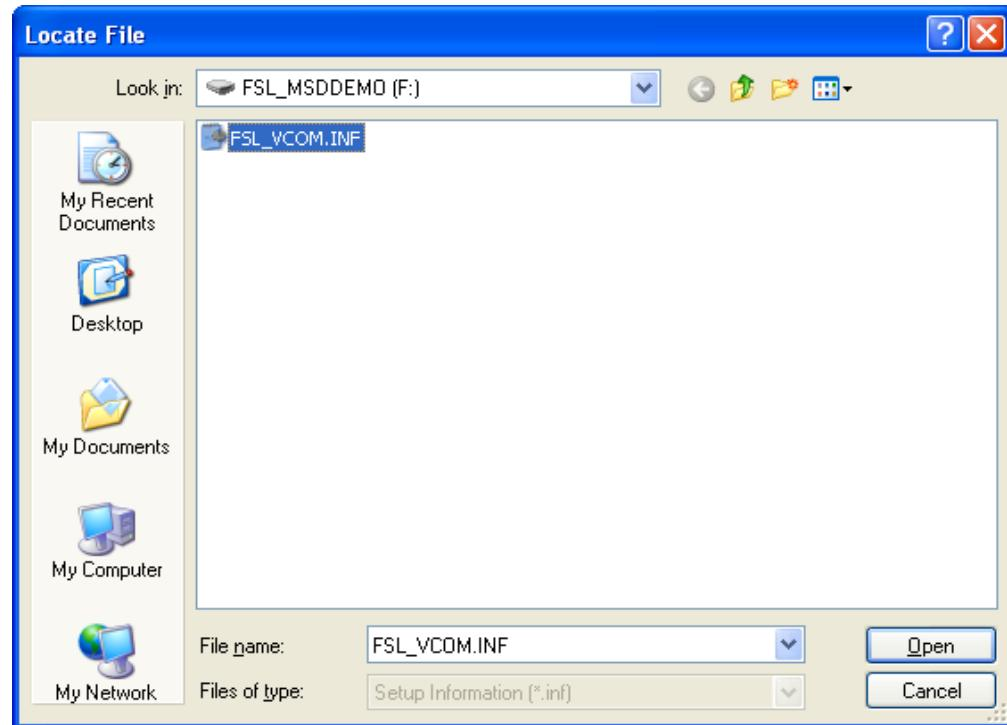

Figure K-16. Location to the driver
Step 5. Navigate to FSL_MSDDEMO disk, CDC driver file is FSL_VCOM.INF, choose it and click Open button (Figure K-16). After that, click Next button when the next window appears to install driver.